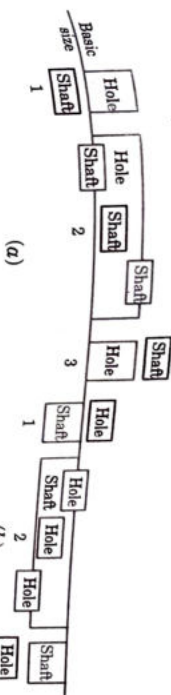

Fig. 4.24.1. (a) Hole based system, (b) Shaft based system.
2. Refer Fig. 4.24.1(a) in this system, lower deviation of hole is zero.
2. Refer Fig. 4.24.1(b) this system, the upper deviation of shaft is zero.